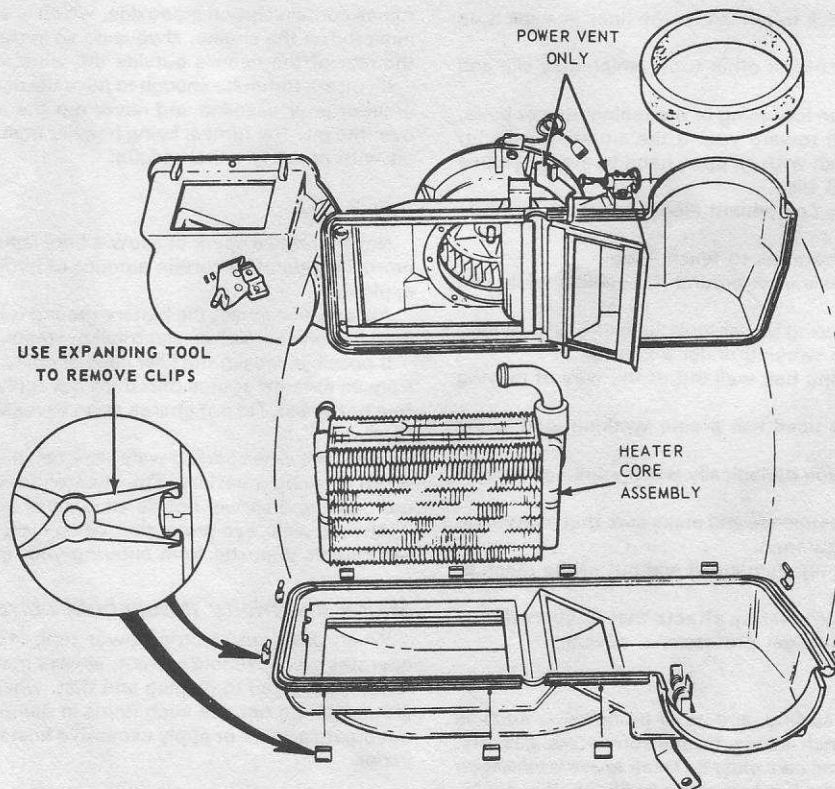

Fig. 12.34 Heater core removal - 1969/70 models (Sec 41)
- b) **1969-70 models** – remove the air inlet seal and the eleven retaining clips (see Fig. 12.34), then separate the heater assembly housing and lift out the heater core